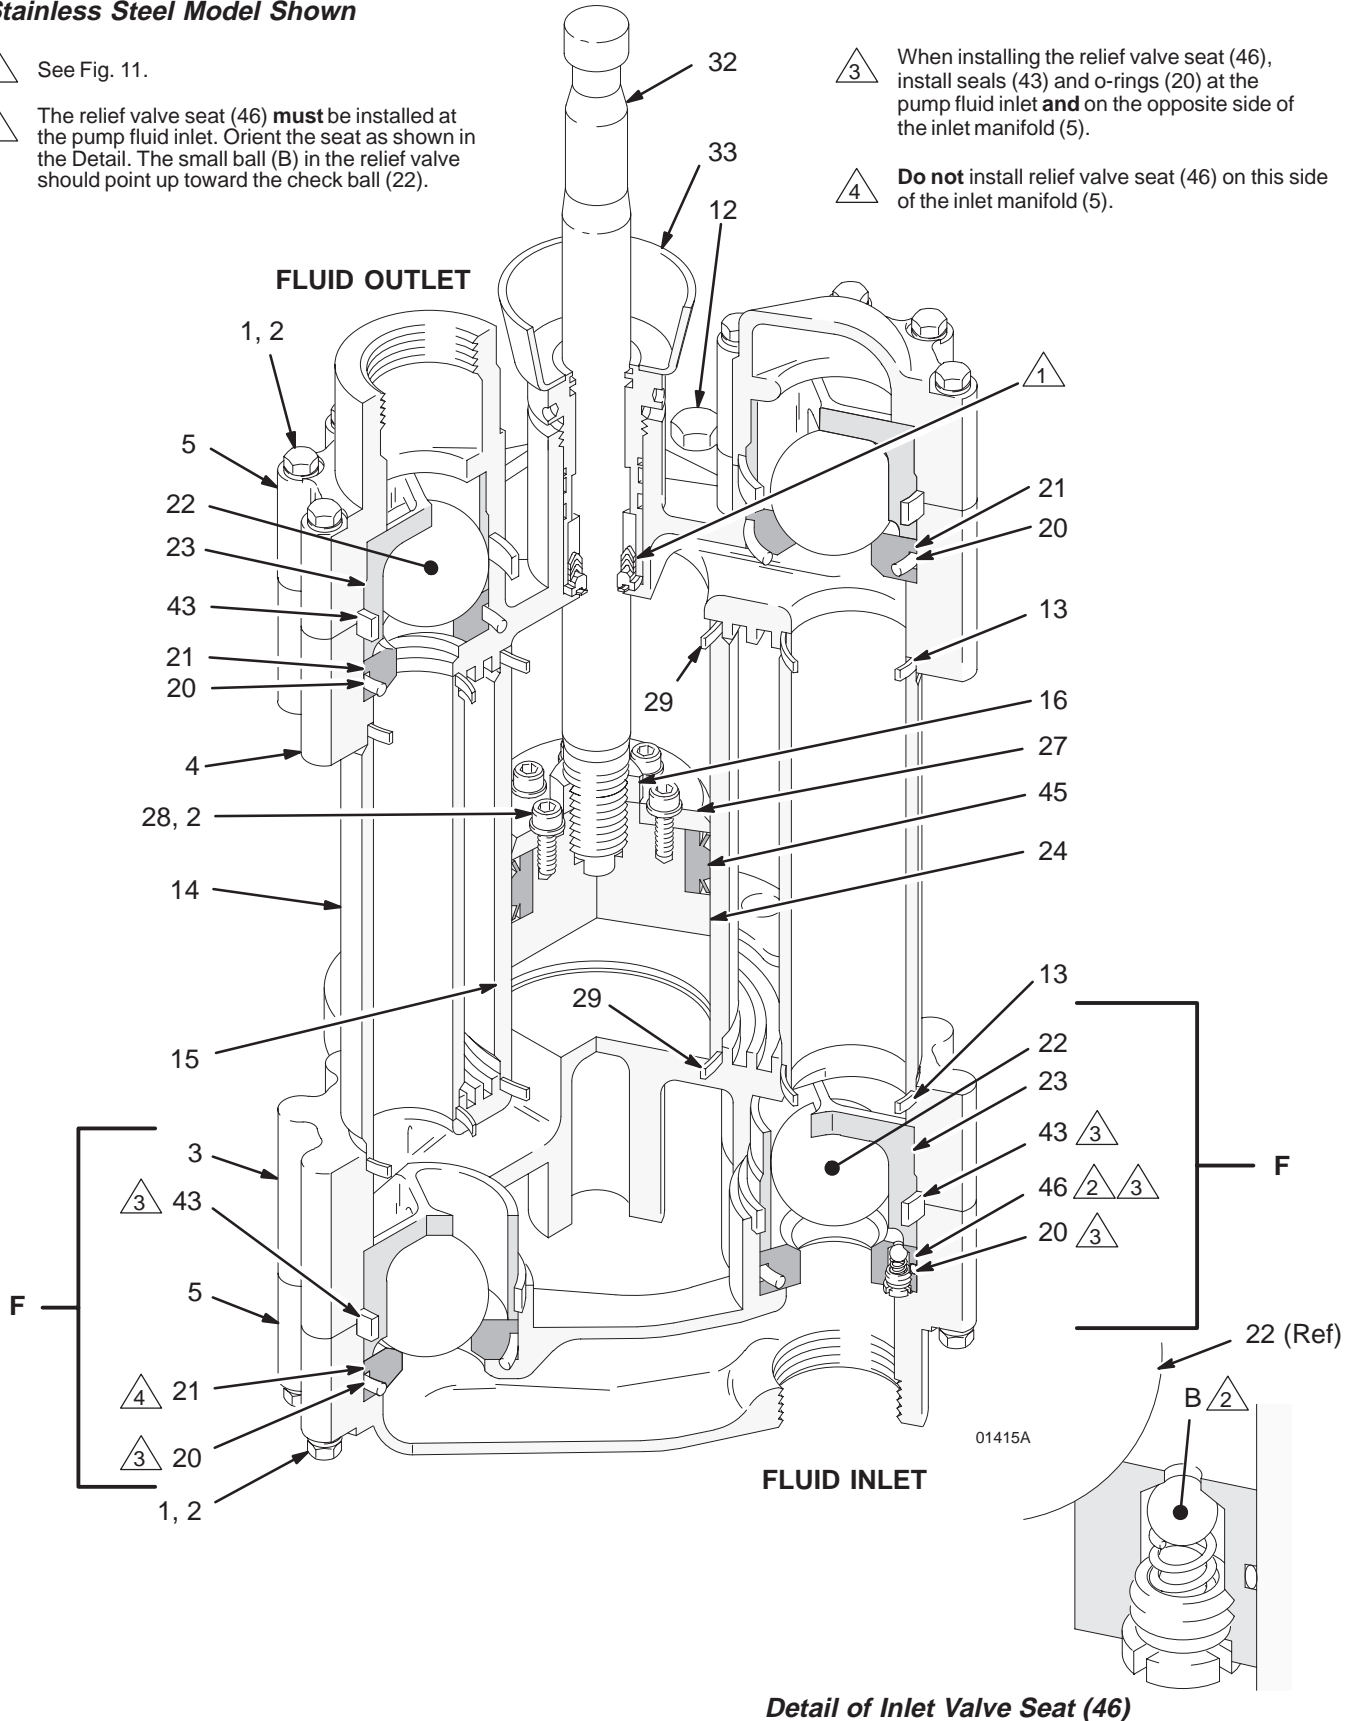

Fig. 10
4. Lift the riser tubes (14) and cylinder (15) off the inlet valve housing (3). The piston assembly may stay in the cylinder. Remove the seals (13 and 29) from the inlet and outlet housings (3, 4). See Fig. 10.
1. Use a 13 mm socket wrench to loosen and remove the twelve capscrews (1) and lockwashers (2) on the outlet manifold (5). See Fig. 10.
8. Use a 13 mm socket wrench to loosen and remove the twelve capscrews (1) and lockwashers (2) from the inlet manifold (5). See Fig. 10.
9. Lift the manifold (5) off the inlet valve housing (3) and remove the seats (21 and 46). Remove the o-ring (20) from the seats.
10. Inspect the pressure relief valve in the fluid inlet seat (46) to make sure it is not clogged. Press down on the valve's ball to see if the ball and spring are free to move. See the detail in Fig. 10.
Be careful not to drop or damage the balls (22) or seats (21 or 46). A damaged ball or seat cannot seal properly and the pump will leak. One inlet valve seat (21) can be reversed to provide longer use of the seat. However, the fluid inlet seat (46) contains a pressure relief valve and is not reversible. See the detail in Fig. 10 for proper orientation.
11. Remove the balls (22), ball guides (23) and seals (43) from the inlet valve housing (3).
12. Push the piston assembly through the cylinder just enough to expose the piston (24) flats. Secure the piston flats in a vise. Use a plastic mallet to tap the cylinder (15) up and off the piston assembly.